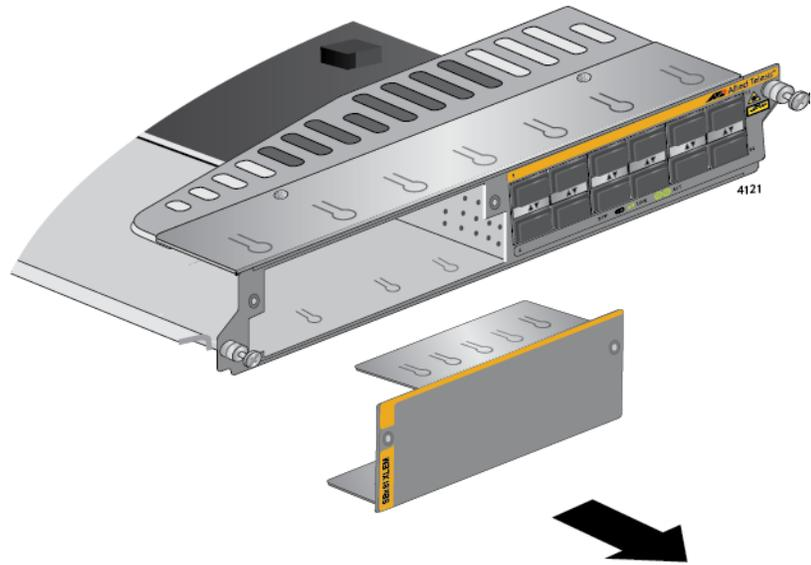

Figure 75. Removing the Blank Slot Cover from the AT-SBx81XLEM Line Card
5. Slide the blank slot cover from the slot. Refer to Figure 75 on page 140.